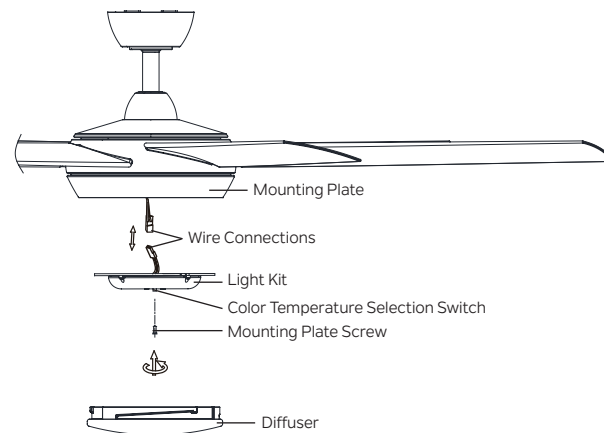

Fig. 18
Step 2. Loosen two of the mounting plate screws on the mounting plate, and remove and save the third mounting plate screw. (Fig. 18)
Step 3. While holding the light kit under your ceiling fan, push the square wire connectors together. One from the fan and one from the light kit. (Fig. 18)
Replace the third mounting plate screw that was previously removed, and tighten all 3 mounting plate screws to secure. (Fig. 18)
Step 5. Raise the diffuser up to the fan, seat against the mounting plate, and turn (clockwise) into the mounting plate until snug, **DO NOT OVER TIGHTEN.** (Fig. 18)